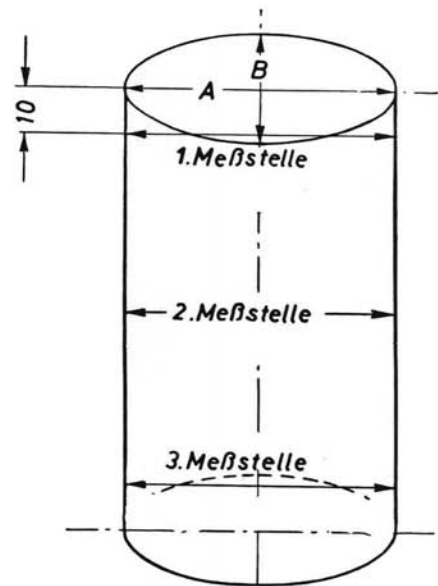

Fig. 01-4/1
1. Clean cylinder bores and measure wear on three different spots with an internal measuring instrument. Fig. 01-4/1. Determine required repair stage from measured wear.